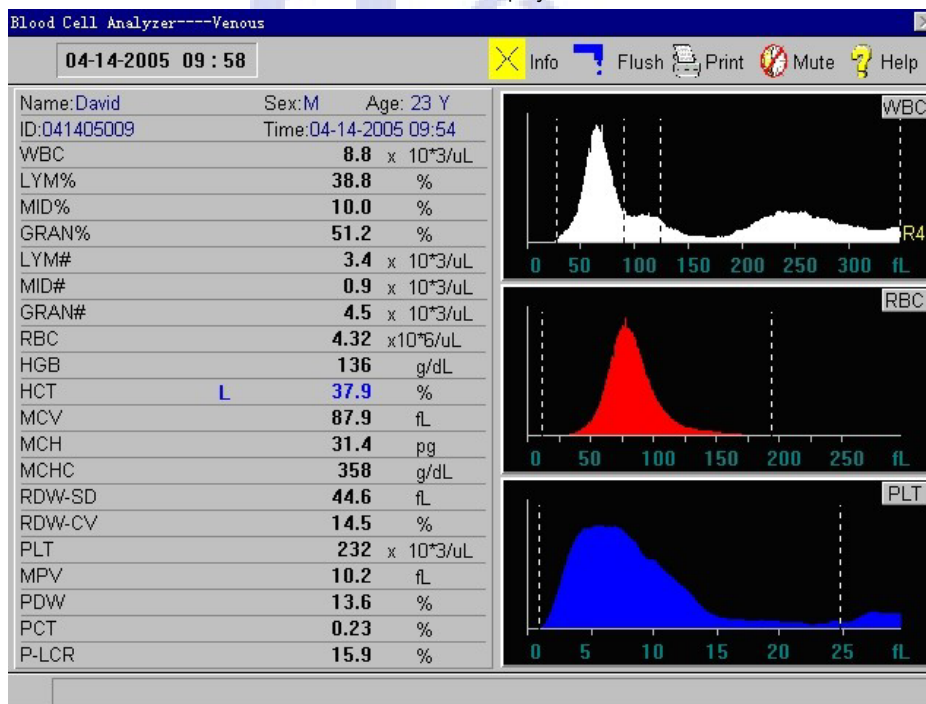

Figure 3-1
After self-test, the instrument will access blood cell analyzer window, as shown in figure 3-1
- c) After the analysis finished, the result will be displayed in the rear of the corresponding parameter on blood cell analyze window of the instrument, with histograms WBC, RBC, PLT .As shown in figure 3-1.